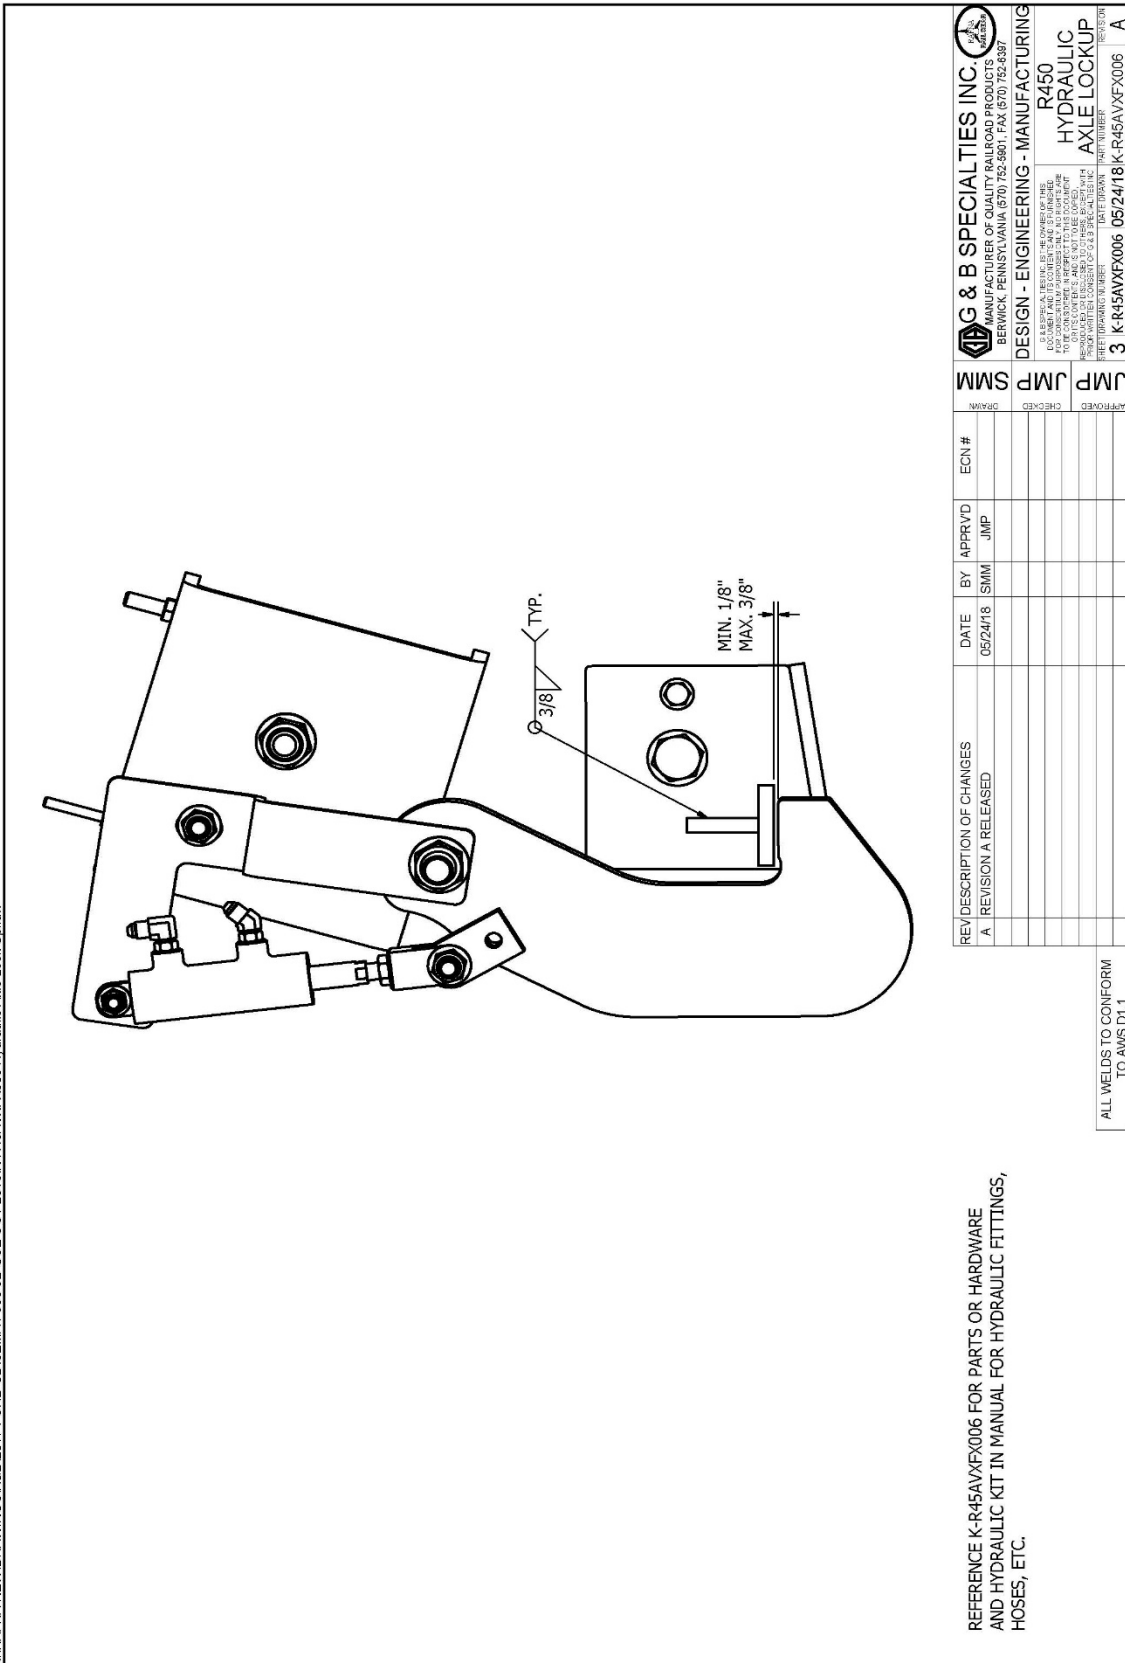

Figure 3
11. Extend the cylinder so that each hook is vertical, with the hooking surface horizontal. Position each hook catch (R-4914) on each bracket so that the vertical side of the hook just touches the forward-most part of the hook catch and there is a minimal gap between the bottom of the hook catch and the hooking surface. Weld each hook catch to each bracket using a 3/8" all around fillet weld. (See Fig. 3)